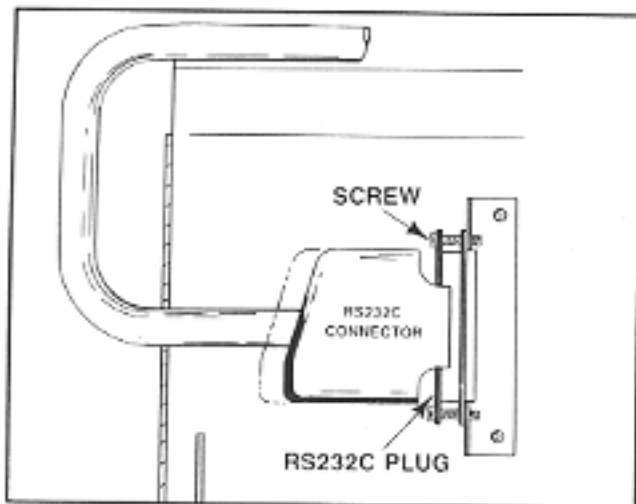

FIGURE 16
06.55 The RS 232C connector is located *behind* the metal faceplate of the MSMU, making it necessary to connect the printer cable *before* the PCB is installed in the KBXU. Secure the printer connector using the two screw holes provided on the PCB connector (Figure 16).